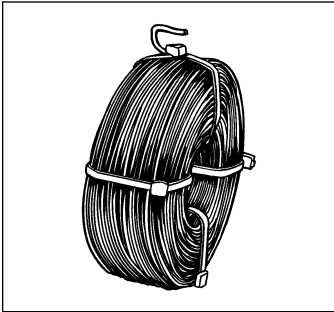

Figure 4
1. If the lashing wire is wrapped with wire ties, rotate the head of the wire tie attached to the looped end of the lashing wire to the center of the coil (see figure 4). This will facilitate the cutting of the wire tie in a later step and help ensure that the complete wire tie is removed.